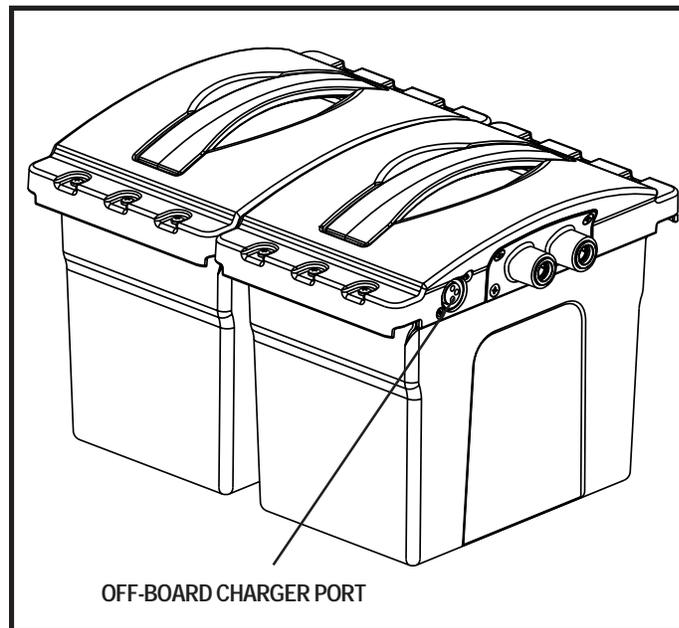

Figure 25. Battery Boxes (Removed from Power Base)
**NOTE:** *You can remove both battery boxes from the power base and charge them using the off-board charger port located on the front battery box. The battery boxes must be connected in order to charge them. See figure 25.*